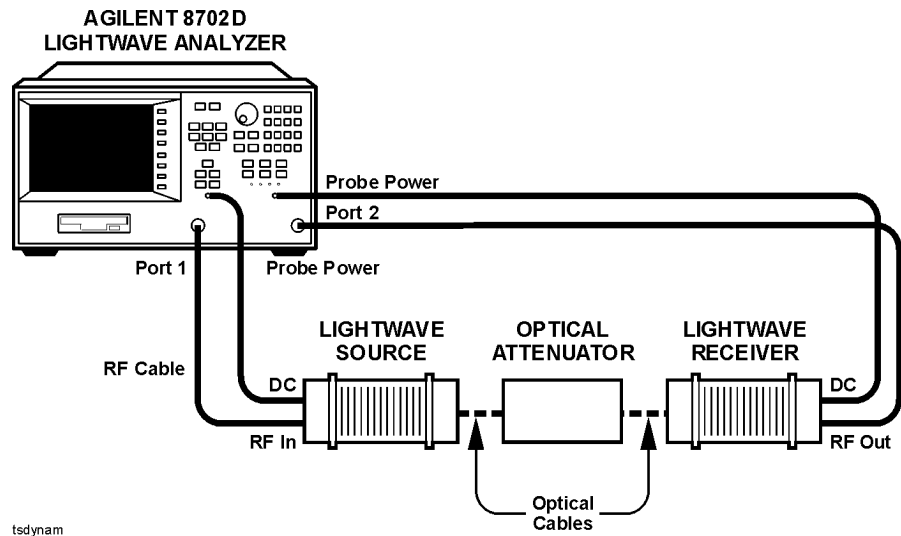

Figure 4-5. Dynamic accuracy test setup
- 1 Connect the system as shown in Figure 4-5.